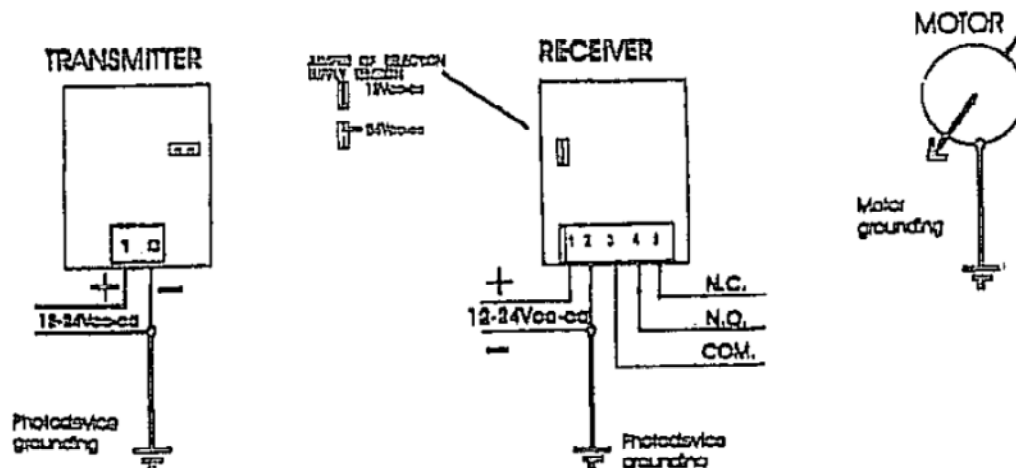
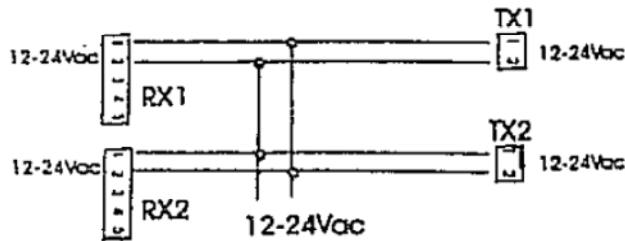

Fig.2 CONNECTIONS
fig.3 SYNCHRONIZED WORKING
2) Effect the connection as shown in fig. 2, paying attention to the tensions polarity in case of direct current or in case of synchronized way of two couples of photocells
To obtain therefore the synchronized working, the photodevices have to be supplied as shown in the figure 3, with 12/24Vac alternate tension, paying attention to the connections; it is necessary to replace the jumper of the transmitter in the "Synchronized" position (see figure 2).
5) Select the requested range through the transmitter jumper as shown in the figure 2 (not available for the FT 98 ECO version). In the following way: